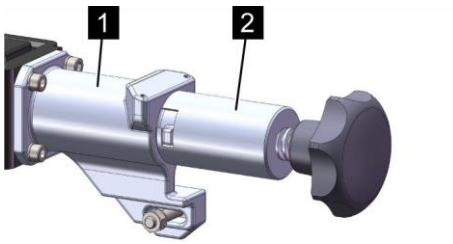

Fig. 160: Clamping device
9. ➤ If the valves on the pilot distributor have been opened electrically, reset the EM release device (Fig. 160/1) with clamping device (Fig. 160/2)